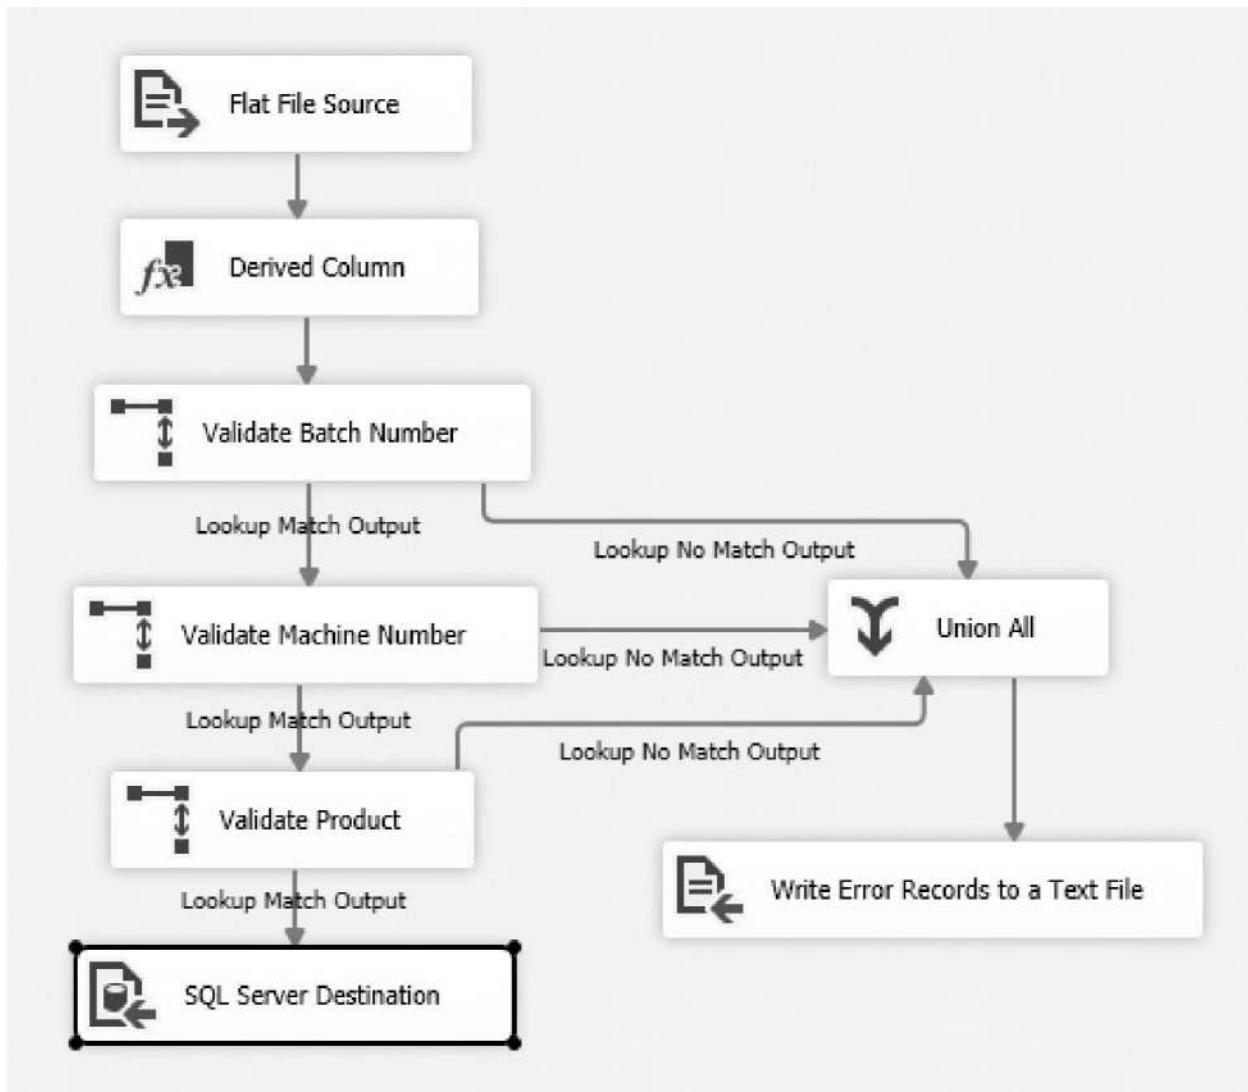

Figure 8-18 The data flow to load the Manufacturing fact table
18. Click OK to exit the Flat File Destination Editor dialog box. The Data Flow tab should appear as shown in Figure 8-18.